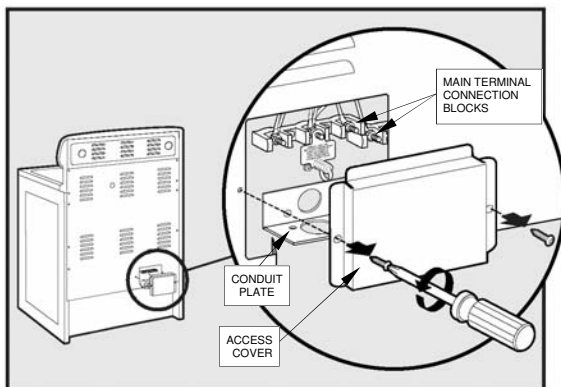
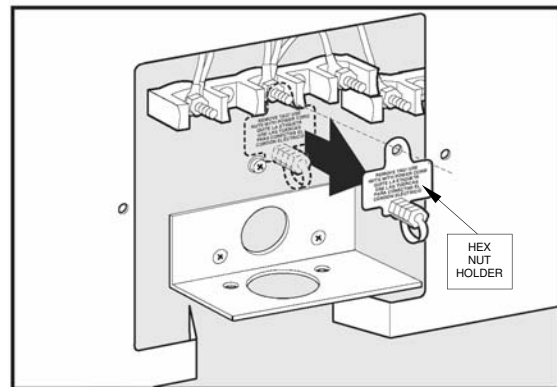

FIGURE 5
FIGURE 6
**USE COPPER OR ALUMINUM CONDUCTORS.** The main terminal block is agency recognized for use with Copper or Aluminum conductors. Make connections as explained below and with reference to the illustration (see figure 6). After installation, insure tightness of all electrical connections and replace all covers.
**TERMINAL BLOCK ACCESS:** Remove the terminal block access cover from the range back (See figure 5). Remove the hex nut holder (See figure 6).